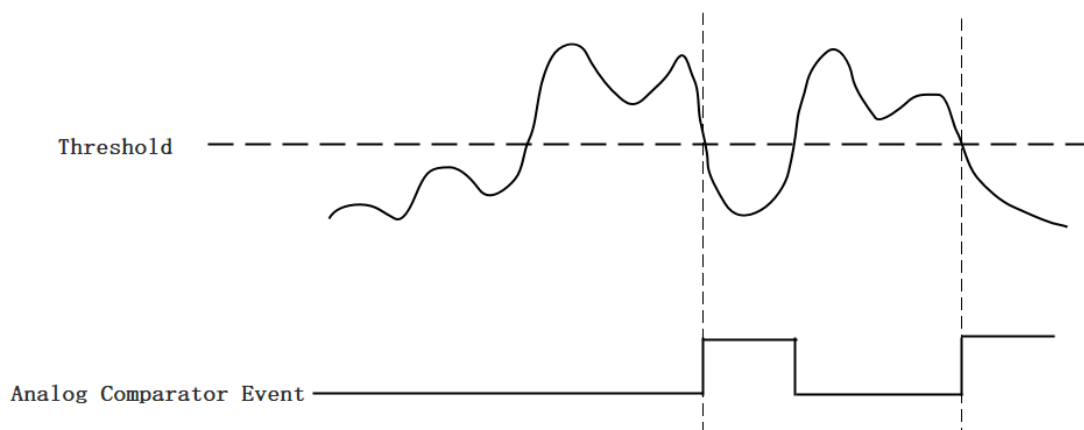

Figure 44 Falling Slope Trigger
***Falling Slope Trigger:*** The Edge comparator output is high when the signal goes below the threshold; the output is low when the signal goes above the threshold as shown in Figure 44.